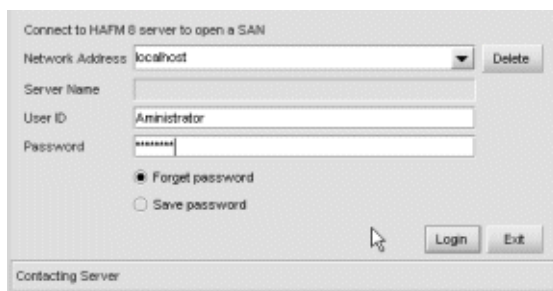

Figure 44: HAFM 8 Log In dialog box
1. Double-click the **HAFM** icon to launch HAFM. The HAFM 8 Log In dialog box displays, as shown in Figure 44.